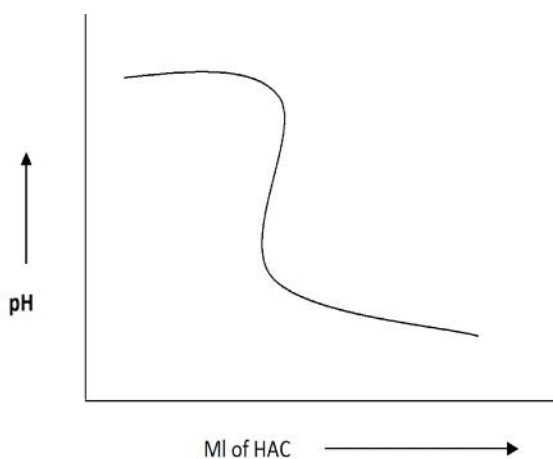
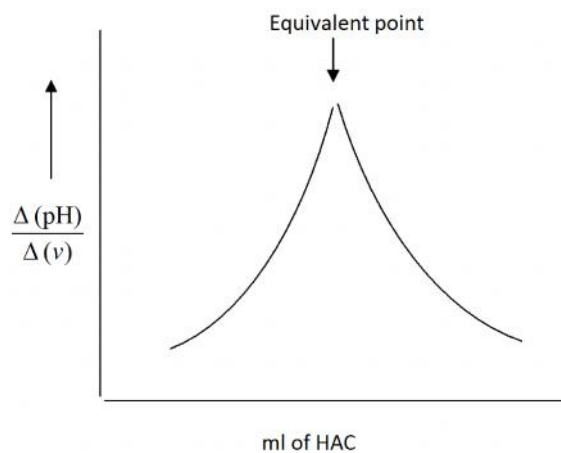

Fig.1
Fig.2
A plot of  $\Lambda \cdot c$  vs.  $1/\Lambda$  will thus give a straight line as shown in Fig.1 at
- a) pH vs. volume of acetic aced added Fig.1 and b)  $\frac{\Delta (\text{pH})}{\Delta (v)}$  vs. volume of acetic acid added Fig.2